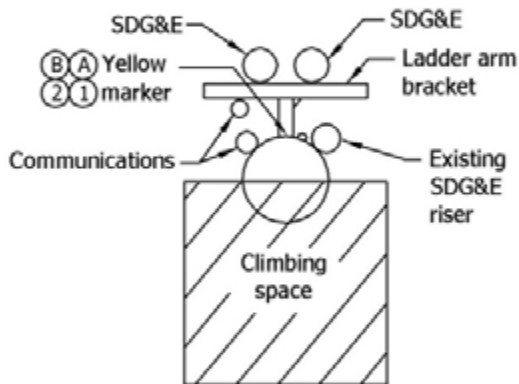

FIGURE 3
- (A) Communications only point of attachment for ladder arm bracket construction shall be on the backside of ladder arm bracket assembly. Galvanized unistrut pipe clamps shall be used to secure the conduit. Communications may attach on the back of the ladder arm assembly alongside SDG&E's riser. Ladder arms may be installed by communications companies provided they are installed per SDG&E construction standards and meet SDG&E material specifications.
- (B) For new construction with an existing SDG&E riser on the pole (Figure 3), one 3" riser maximum on the pole and one 3" riser maximum on the backside of the ladder arm bracket are permitted back-to-back.
- (C) When a ladder arm is existing, and the back of ladder arm positions and pole positions on communications side of pole are occupied, additional communications risers must be placed on another pole.